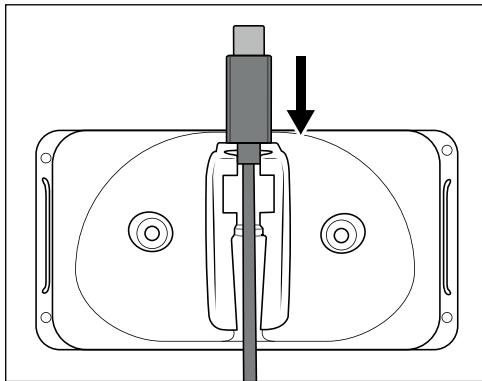
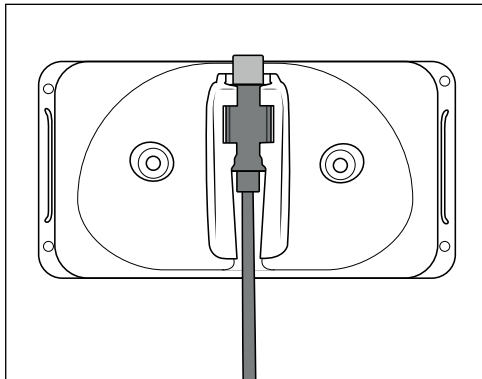

Fig. 1
Fig. 2
- 1) Insert the USB-C plug **5** of the USB charging cable **4** into the wall bracket **3** (see Fig. 1). Push the USB-C plug **5** downwards until the groove on the USB-C plug **5** engages into the clip of the wall bracket **3** (see Fig. 2).